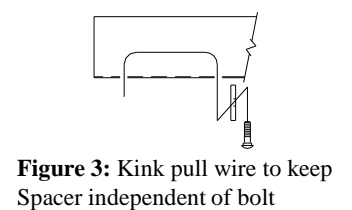
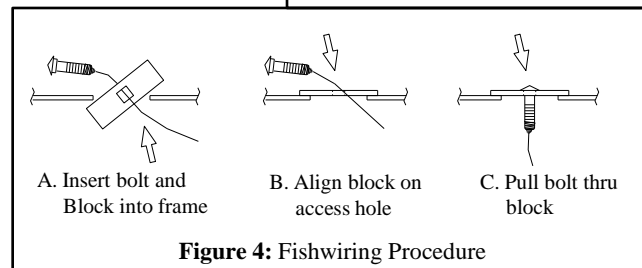

Figure 3: Kink pull wire to keep Spacer independent of bolt
Figure 4: Fishwiring Procedure
- Fishwire spacers and 1/2" carriage bolts thru access hole modified in Step 4 and down thru holes in both frame rails (see figure 3), making sure blocks span both sides of hole (see Figure 4) and are not overlapping one another.